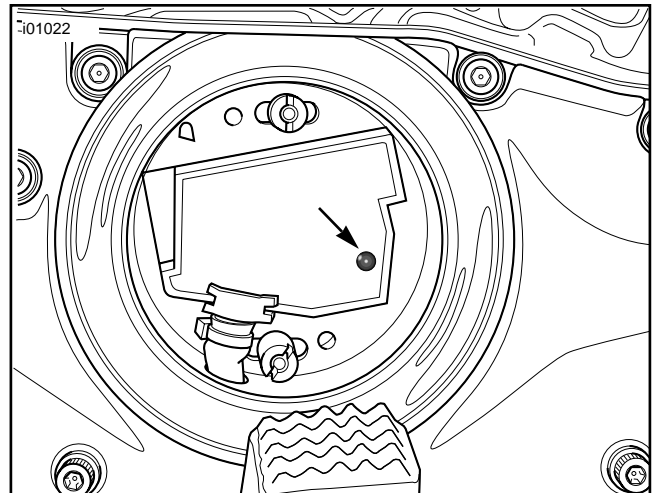

Figure 3. Static Timing LED
- g. See Figure 3. Slowly rotate module plate until red LED illuminates, then tighten module plate screws to 15-30 **in-lbs** (1.7-3.4 Nm).